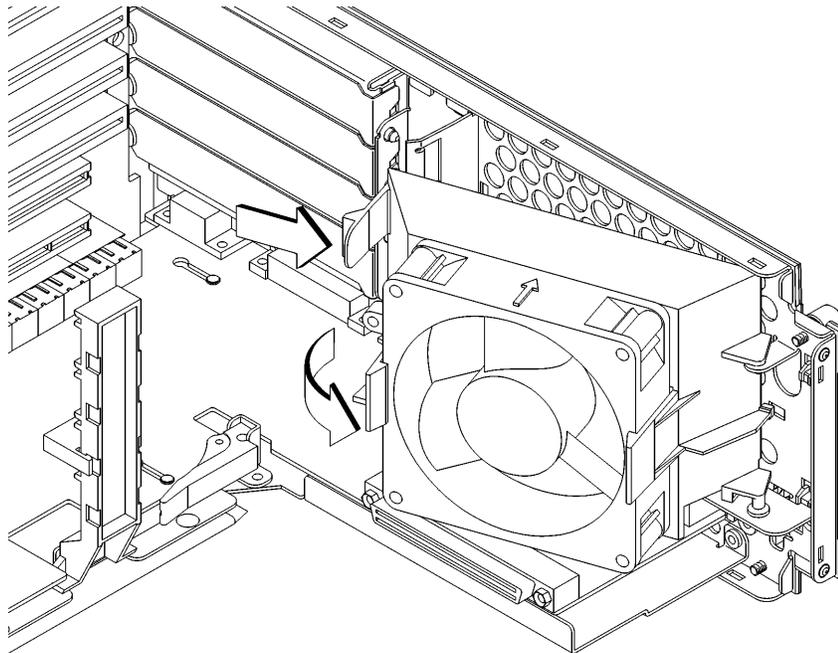

Figure 44 **Rotating the EISA Fan**
- 1 Press the release clip and rotate the EISA fan, as shown in Figure 44.